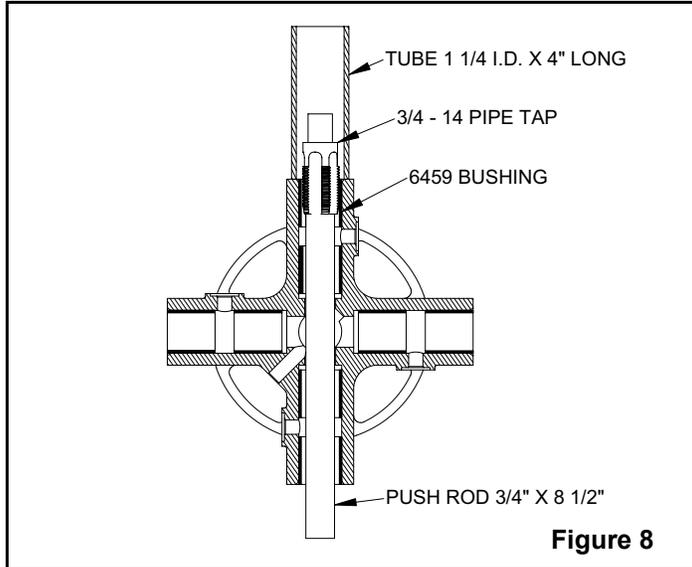

**Figure 7**
17. Route threaded portion of the cable over the pulley on clevis and back into the tube. Guide the threaded end through the slot in the handle as you insert clevis into the handle tube. Insert one of the handle bolts through the clevis mounting holes to hold it in place. See figure 7.